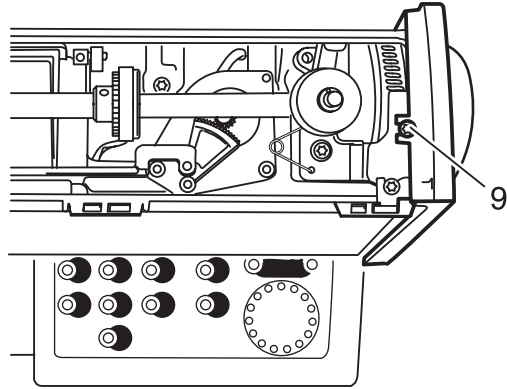

Fig. 100
- Loosen fastening screw 9 on the stand cover (fig. 100).